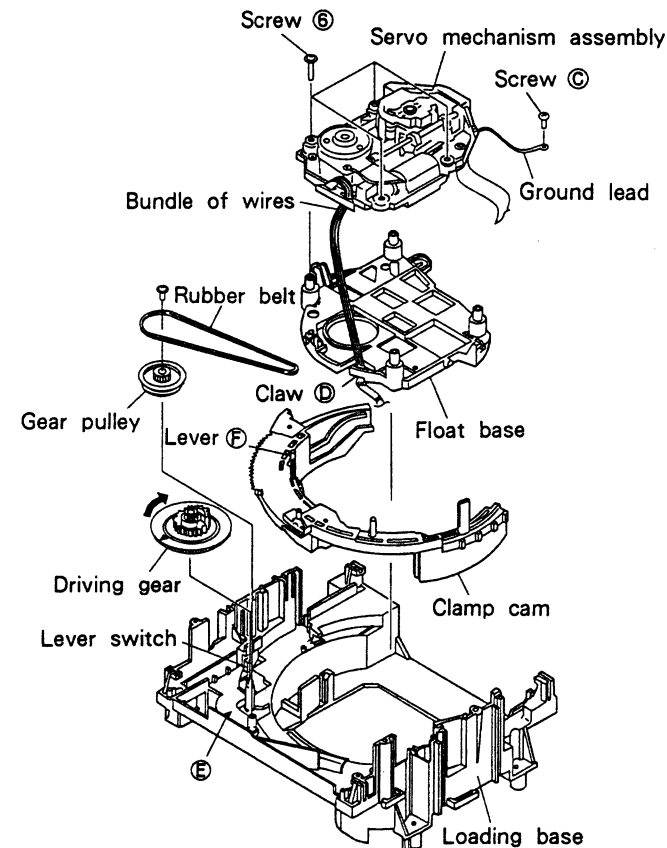

Fig. 2 - 2.
2.3 REMOVING THE FLOAT BASE (See Fig. 2 - 2.)
- ① Remove the servo mechanism assembly. (See 2.2.)
- ② Rotate the driving gear in the clockwise direction fully. The clamp cam will rotate in the counterclockwise direction, and the float base will rise.
- ③ After removing the bundle of wires from claw ④ of the float base, remove the float base.